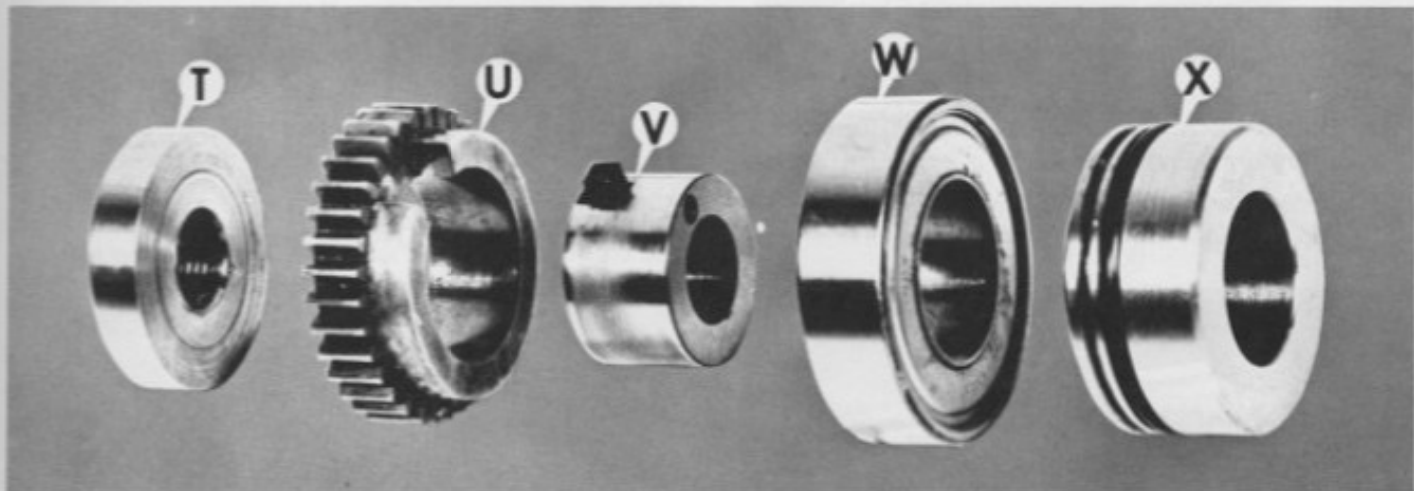

Figure 78 — Turret Indexing Shaft Components
8. Remove nut "T", Figure 75, and gear "U", bushing "V", Figure 78, bearing "W" and spacer "X".
5. Coat O.D. of spacer "X", Figure 78, and bushing "V" with molylube. Replace spacer and O-ring "X", bearing "W", bushing "V" and gear "U".